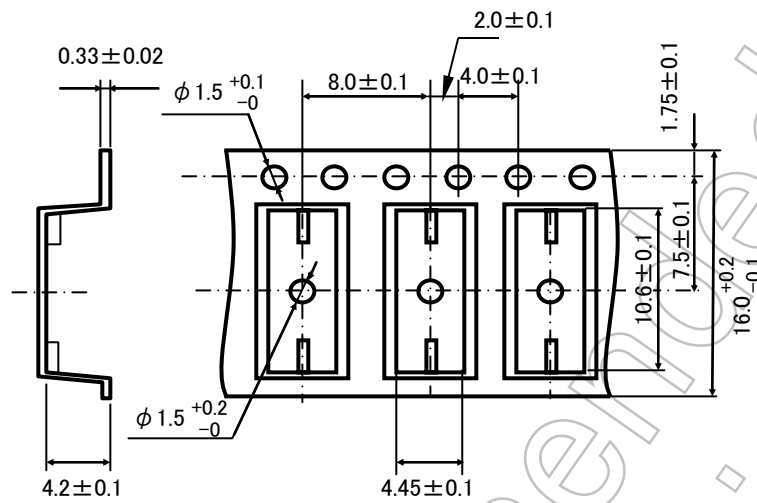

Figure 2 Tape Forms
- (1) Tape material: Plastic
- (2) Dimensions: The tape dimensions are as shown in Figure 2.